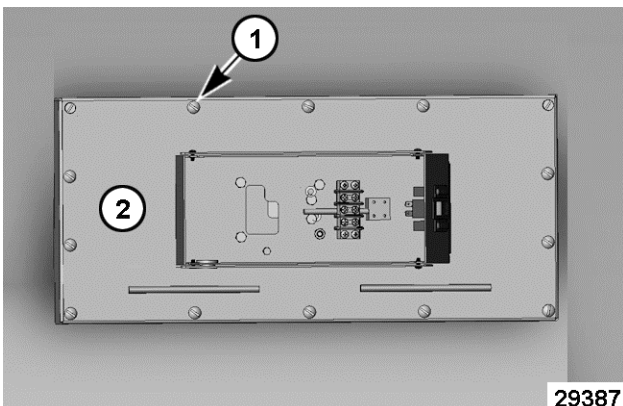

Fig. 40
5. Remove 12 screws (1, Fig. 40) securing platen cover assembly (2, Fig. 40) to clamshell assembly.